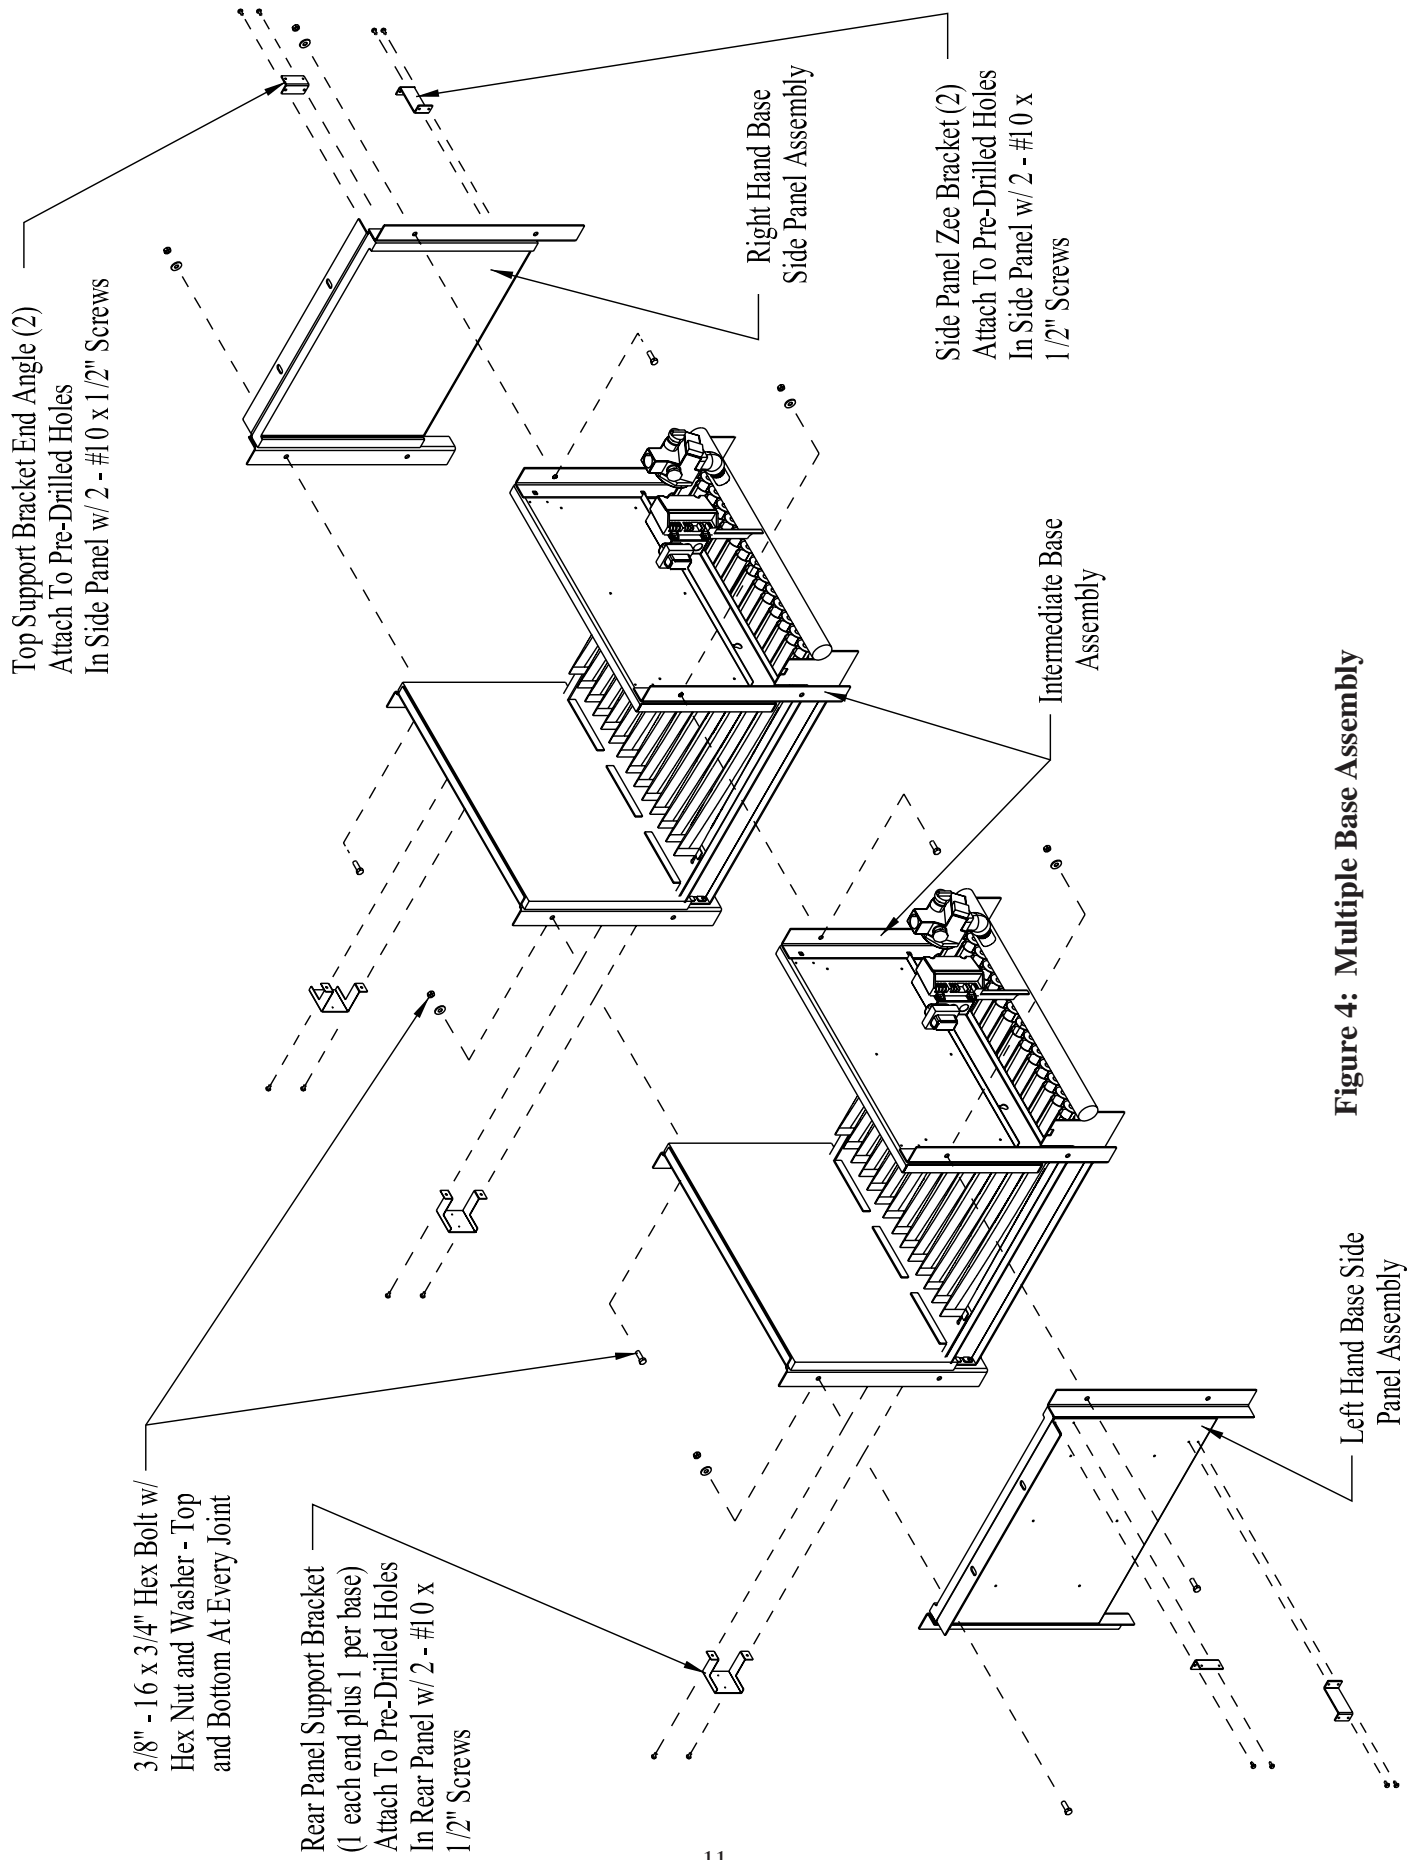

Figure 4: Multiple Base Assembly
- c. Join Base Sub-assemblies together. Use (4) 3/8"-16 x 3/4" screws, nuts and washers to attach subassemblies. (See Figure 4)